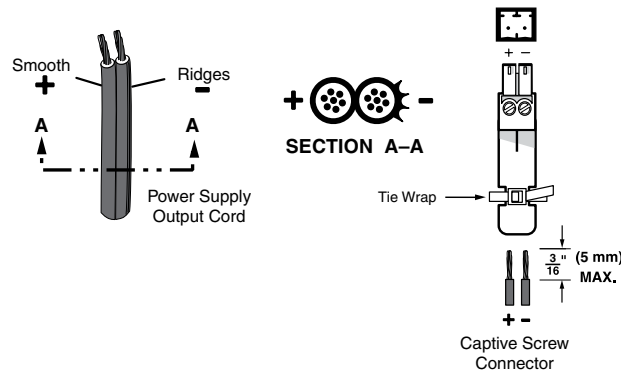

Figure 4. Power Connection
- ① **Power input** — Connect the provided power supply to the 3.5 mm, 2-pole captive screw power receptacle (see figure 4).